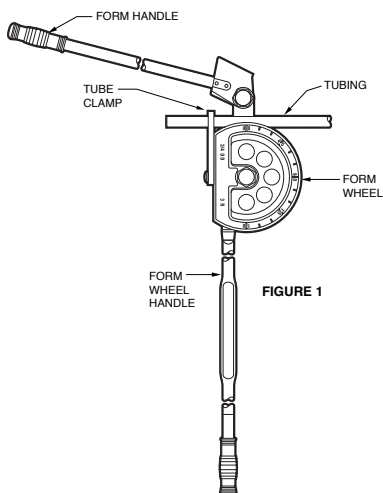

FIGURE 1
1. Raise form handle. (Fig. 1)